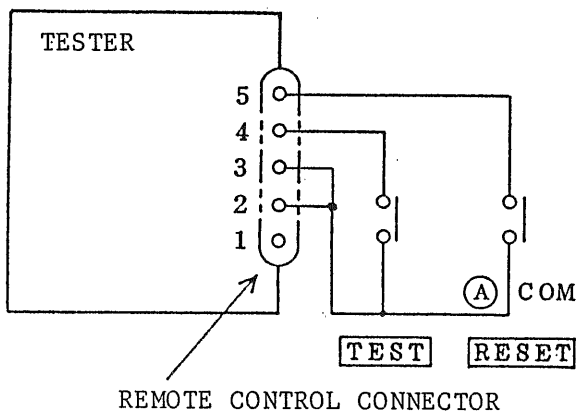

Figure 4.3
- (b) By controlling the TEST and RESET contacts shown in Figure 4.3, test voltage can be on-off controlled in the same manner as done at the Tester front panel. (Special Test mode: NG ALARM OFF)
- (d) Logical elements, transistors, FET's, or photocouplers may be used instead of the switches in Figure 4.3. The example is shown in Figure 4.5. The input conditions of the Tester for such operation are as follows:
- (e) With a view to prevent erroneous operation which could be caused by noise, it is recommendable to use photocouplers as shown in Figure 4.5 or relays as shown in Figure 4.3. The Tester is designed with full attention so that it does not erroneously operate by noise. Pay attention so that the devices connected to the tester do not erroneously operate by noise.